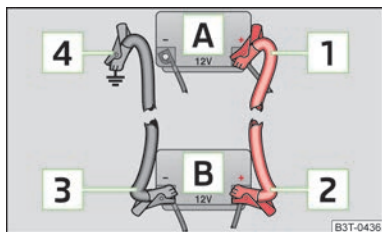

Fig. 153
- > Attach one end » Fig. 153 to the positive terminal of the discharged battery .
- > Attach one end » Fig. 153 to the negative terminal of the battery supplying the power .